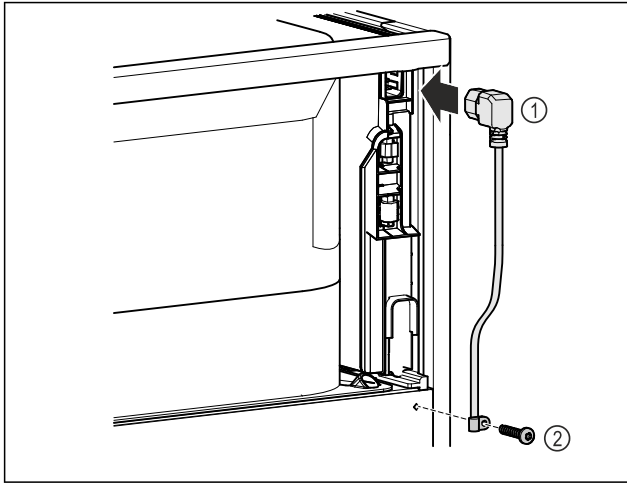

Fig. 68
- IEC socket of the power cable Fig. 68 (1) on the rear side of the appliance.
- Install mains tension relief Fig. 68 (2)